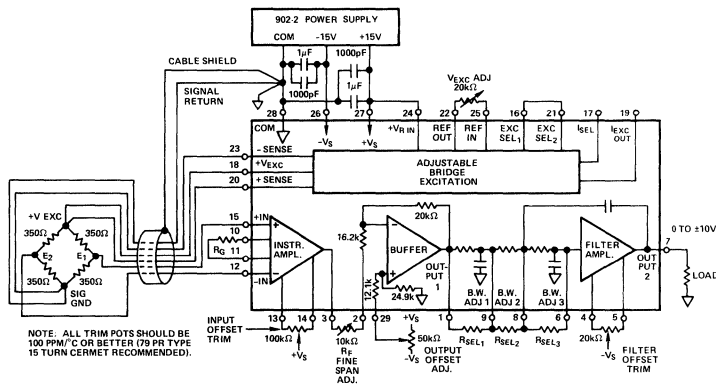

Figure 1. Typical Bridge Transducer Application Using 2B31
The 2B30 and 2B31 employ a multi-stage design, shown in Figure 1, to provide excellent performance and maximum versatility. The input stage is a high input impedance ( $10^8\Omega$ ), low offset and drift, low noise differential instrumentation amplifier. The design is optimized to accurately amplify low level (mV) transducer signals riding on high common mode voltages ( $\pm 10V$ ), with wide (1-2000V/V), single resistor ( $R_G$ ), programmable gain to accommodate 0.5mV/V to 36mV/V transducer spans and 5Ω to 2000Ω RTD spans. The input stage contains protection circuitry for accidental shorts to power line voltage (130V rms) and RFI filtering circuitry.
Figure 1 illustrates the 2B31 wiring configuration when used in a typical bridge transducer signal conditioning application. A recommended shielding and grounding technique for preserving the excellent performance characteristics of the 2B30/2B31 is shown.
Models 2B30/2B31 have been conservatively specified using min-max values as well as typicals to allow the designer to develop accurate error budgets for predictable performance. The error calculations for a typical transducer application, shown in Figure 1 (350Ω bridge, 1mV/V F.S., 10V excitation), are illustrated below.
where RG is the input stage resistor shown in Figure 1 and RF is the variable 10kΩ resistor in the output stage. For best performance, the input stage gain should be made as large as possible, using a low temperature coefficient (10ppm/°C) RG, and the output stage gain can then be used to make a ±20% linear gain adjustment by varying RF.
**Input Offset Adjustment:** To null input offset voltage, an optional 100kΩ potentiometer connected between pins 13 and 14 (Figure 1) can be used. With gain set at the desired value, connect both inputs (pins 12 and 15) to the system common (pin 28), and adjust the 100kΩ potentiometer for zero volts at pin 3. The purpose of this adjustment is to null the internal amplifier offset and it is not intended to compensate for the transducer bridge unbalance.
**Output Offset Adjustment:** The output of the 2B30/2B31 can be intentionally offset from zero over the ±10V range by applying a voltage to pin 29, e.g., by using an external potentiometer or a fixed resistor. Pin 29 is normally grounded if output offsetting is not desired. The optional filter amplifier offset null capability is also provided as illustrated in Figure 1.
**Filter Cutoff Frequency Programming:** The low pass filter cutoff frequency may be increased from the internally set 2Hz by the addition of three external resistors connected as shown in Figure 1. The values of resistors required for a desired cutoff frequency, fc, above 5Hz are obtained by the equation below: